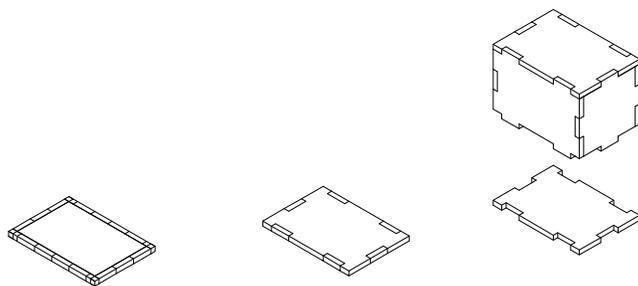

Figure 4, joining between component and attachment tabs
6) After parts have been grouped to include attachment (figure 4 & 5) features last step (figure 6) is copy of component faces to a flatten position.